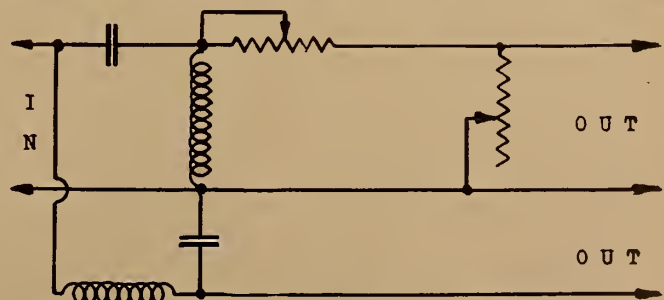

Fig. 3. Tuned filter supplying l.- and h.-f. amplifiers
Fig. 3 is somewhat similar circuit used to divide the output of a voltage amplifier between low- and high-frequency power amplifiers. In this case there are (neglecting the resistors) four parallel circuits.
12. What trouble in Fig. 3 could cause drastic loss of high-frequency volume? Of low-frequency volume? Of both?